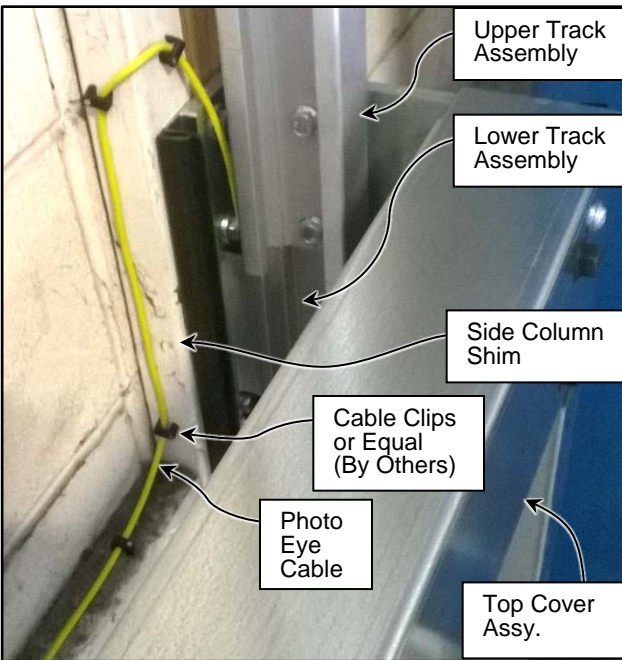

Figure 80
5. Route the non-drive side photo eye cable straight up to the top of the side column assembly, then across the rear spreader as shown. Secure the cable as shown or use a comparable method such as zip tie's. The rear spreader runs between the side columns along the top. (See Figure 80)